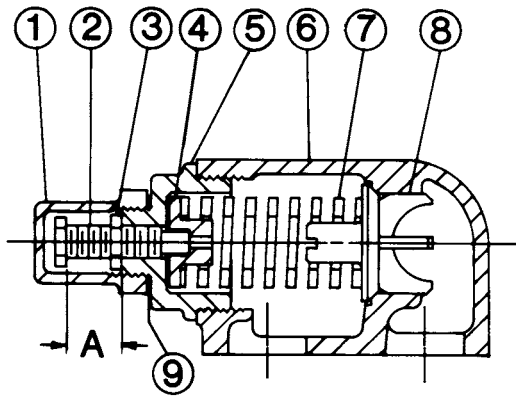

FIGURE 10
2. Measure and record length of extension of adjusting screw. Refer to "A" on Figures 10 and 11.